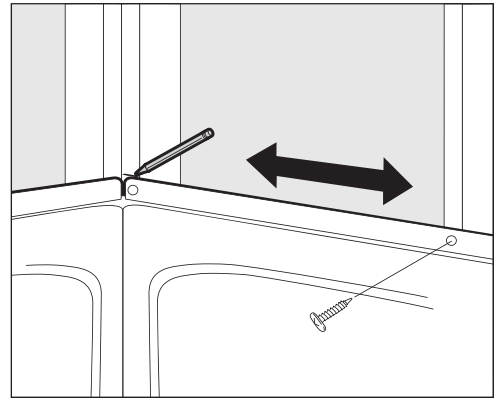

FIGURE 5. Mark studs.
- Mark the height of the wall on each stud to indicate where to apply adhesive on the stud. **(Fig. 5)**